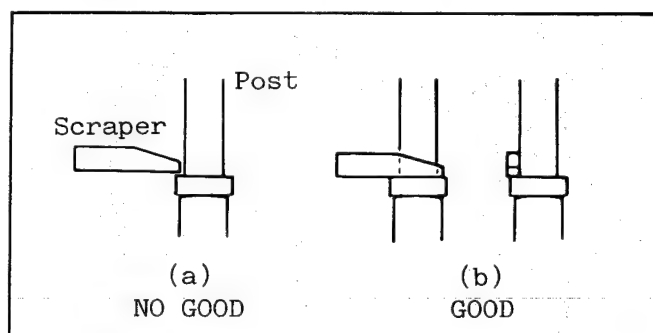

Fig. M22-3 Adj. of Tape Guide Post Height
4. Set the fixture to zero "0" and slowly raise the post until it just touches the scraper. When the scraper touches the post, it should fit as shown below in Fig. M22-3 (b).